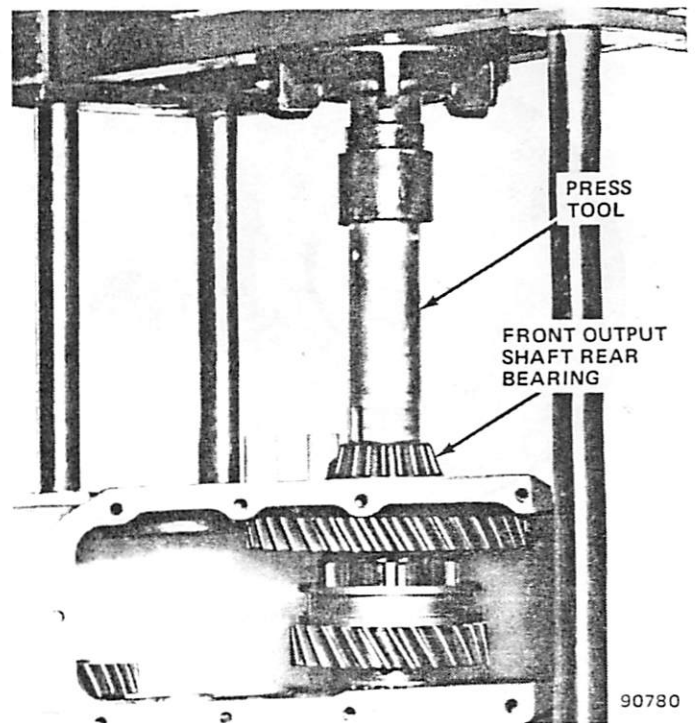

Fig. 2D-82 Front Output Shaft Rear Bearing Installation
(6) Install input shaft rear needle bearing in rear output shaft using Tool J-29179.
(7) Position rear output shaft clutch gear in case and insert rear output shaft into gear.
(8) Install thrust washer and front bearing on rear output shaft using arbor press and suitable press tool.
(9) Install shims and bearing on input shaft using arbor press and suitable press tool.
(10) Install new input shaft oil seal in input shaft support using Tool J-29184.
(11) Install input shaft and bearing in support and install new bearing snap ring.
(12) Install rear output shaft gear on input gear and install new gear retaining snap ring (fig. 2D-77).
(13) Measure clearance between input gear and gear retaining snap ring using feeler gauge. Clearance should not exceed 0.003 inches (0.076 mm). If clearance is over tolerance, disassemble input shaft and add shims between input shaft and shaft bearing (fig. 2D-76).
(14) Install clutch sleeve on rear output shaft.
(15) Apply Loctite 515, or equivalent sealant, to mating surface of input shaft support and install assembled support, shaft and gear in case. Use two support bolts to align support on case and tap support into position using plastic mallet.